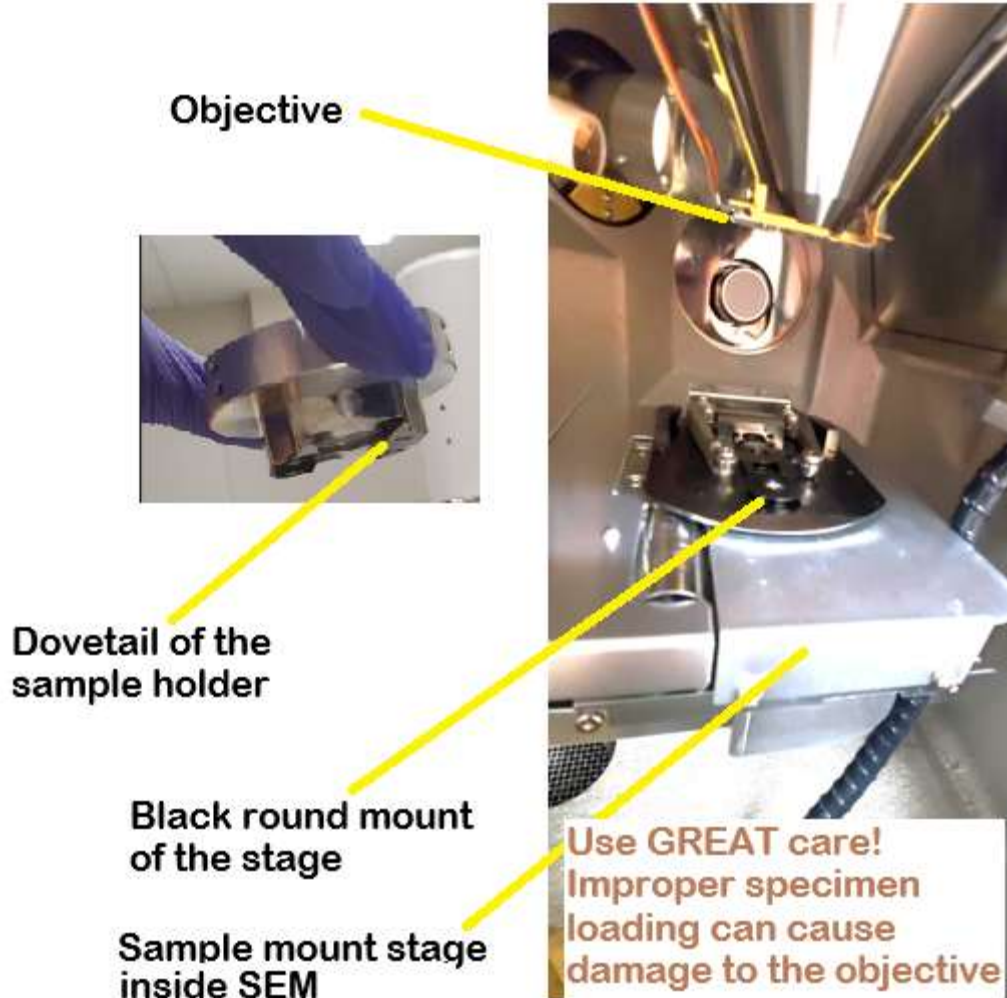

Fig.10. VENT button is lit with green and not blinking – the sample chamber is at atmospheric pressure.
4. Press VENT button on the main control panel: VENT button will light with green color and start blinking; soon the light become solid (Fig.10). At this time, the sample chamber is at atmospheric pressure and the door can be open.